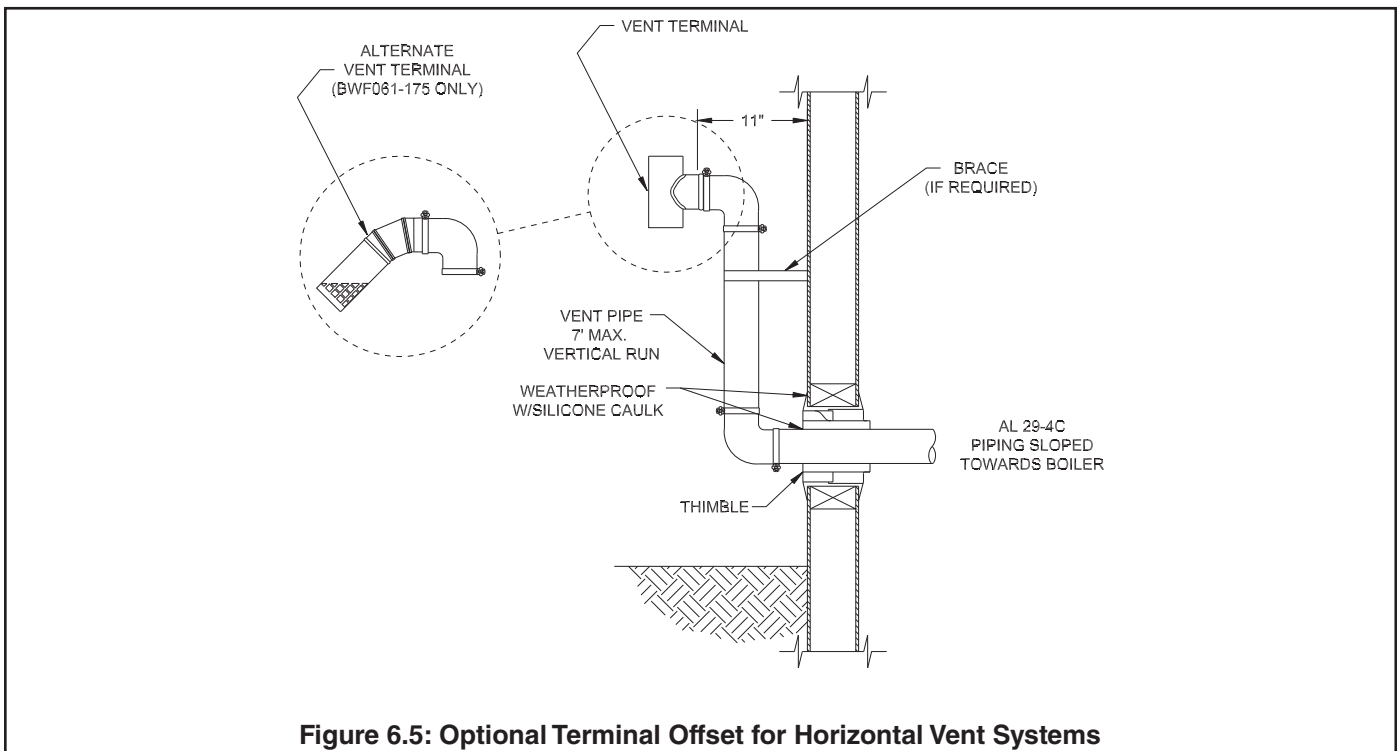

Figure 6.5: Optional Terminal Offset for Horizontal Vent Systems
5. Terminal Offsets - Tee terminals may be offset by as much as 7 ft as shown in Figure 6.5. This sometimes helps maintain the 12" minimum clearance required above the snow line. The extra two elbows and the section of vertical pipe on the outside of the building must be counted when checking that the maximum vent pipe length is not exceeded. When this offset is used, the horizontal section of vent pipe must be pitched away from the outside so that condensate cannot collect in the lower offset elbow.